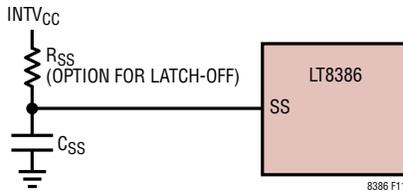

Figure 11. SS Capacitor and Resistor Configuration
The LT8386’s soft-start (SS) pin has two functions. First, it allows the user to program the output start-up voltage ramp rate through the SS pin. An internal 22μA current pulls up the SS pin to INTV_{CC}. As shown in Figure 11, connecting an external capacitor C_{SS} at the SS pin to GND will generate a linear ramp voltage. This voltage ramp at the SS pin forces the LT8386 to regulate the FB pin voltage to track the SS pin voltage until V_{OUT} is high enough to drive the LED at the commanded current level.